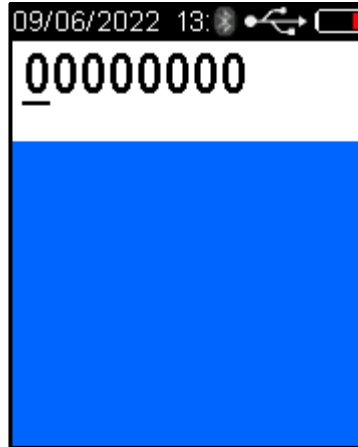

Figure 29 Password Set-up Code 00000000
- With the screen displaying press to test, Press the UP and Down buttons simultaneously for approximately five seconds. The menu screen will be displayed during this process and then the password set-up code '00000000' will be displayed (Refer Figure 29).